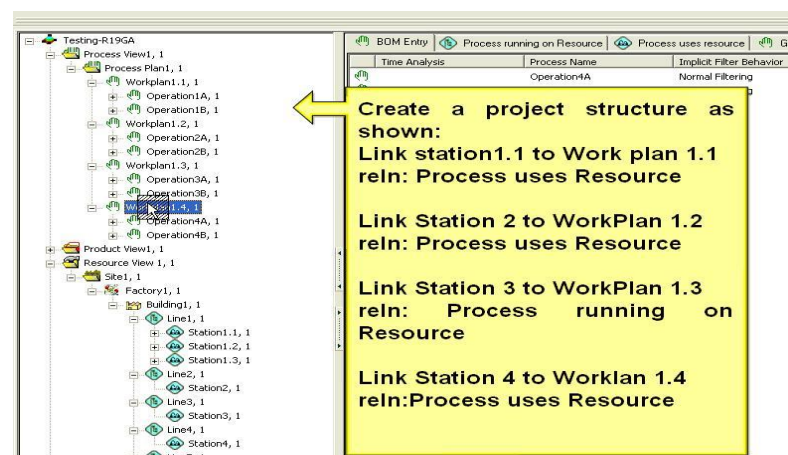

Figure 133: Project Structure
- 1) Create a Project with Default V5R19 as PTS as shown in Figure 133.